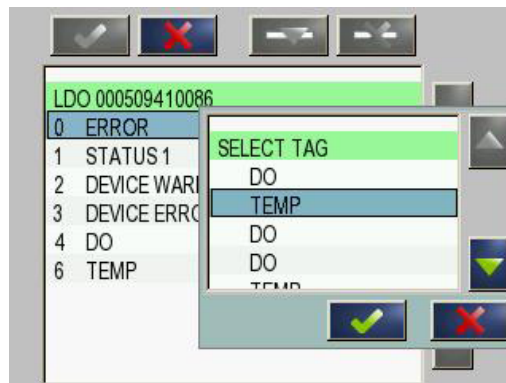

Figure 46 Profibus/Modbus configuration menu—Select tag
6. In the Telegram device list, select a tag (for example Error or Status) and press the **ADD** button. The Select tag box with all tags available for the probe is displayed (Figure 46).